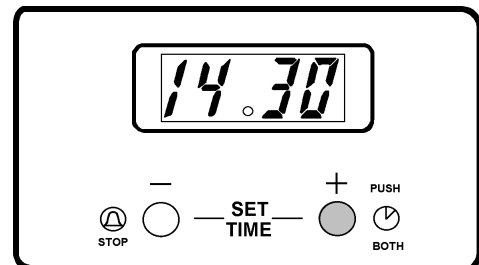

Fig. 4
To set press button (1) and the display will read 00:00, see Fig. 4.